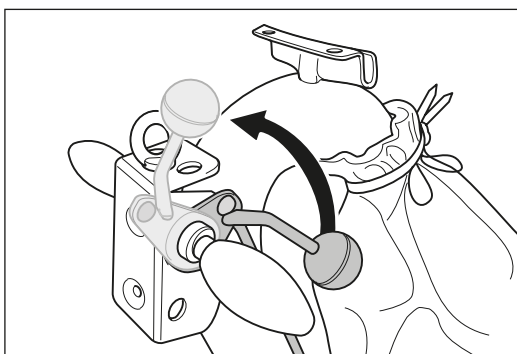

Fig. 24 Lift the sanding drum off the floor by turning the lowering lever at the handle upwards.
- 1 Before switch off the machine lift the sanding drum off the floor by turning the lowering lever at the handle upwards (fig. 24).